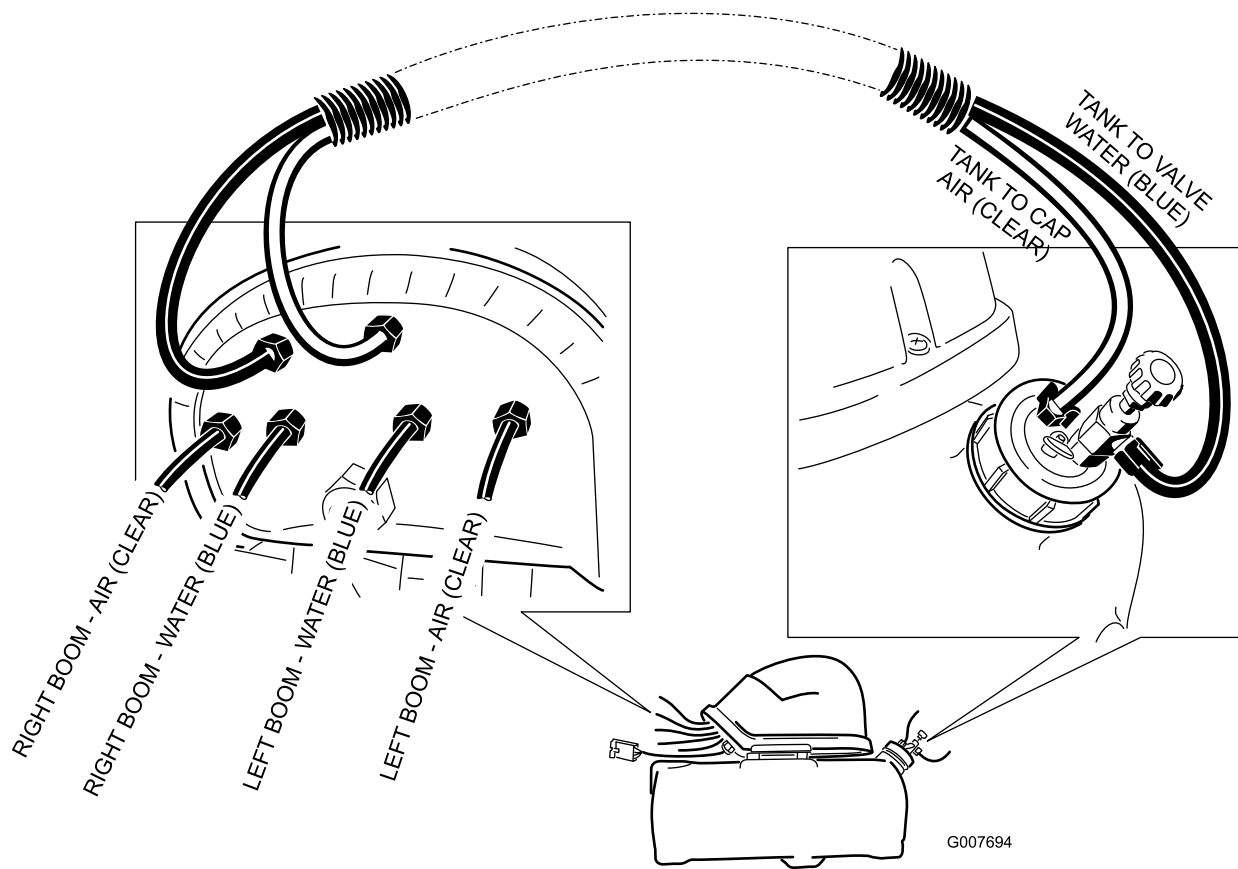

Figure 17
3. The final routing should be as shown in Figure 17.